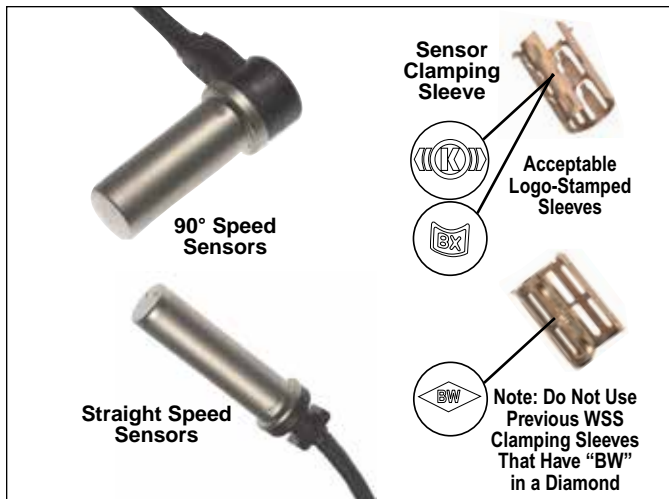

FIGURE 6 - BENDIX® WS-24™ WHEEL SPEED SENSORS
- **Wheel Speed Sensors (WSS):** Located at selected hubs, wheel speed sensors detect the rotation of individual wheels and send an electrical signal to the ECU proportional to the rotational velocity. See Figure 6.
See *Figure 4*. Wheel speed data is provided to the TABS-6 Advanced MC module by the Bendix® WS-24™ wheel speed sensors. Typically, the WS-24 wheel speed sensor is installed in a mounting block that is welded to the axle housing. The WS-24 wheel speed sensors are protected by a stainless steel sheath. They are designed to be used with beryllium copper clamping sleeves (sometimes referred to as a “retainer bushing”, “friction sleeve”, or “clip”) (See *Figure 6*). The clamping sleeve provides a friction fit between the mounting block bore and the WS-24 sensor.
2. Install the new clamping sleeve fully into the block, with the retaining tabs toward the inside of the vehicle. Please note that Bendix WS-24 wheel speed sensors must use the correct clamping sleeve to avoid problems associated with reduced retention force, such as sensor movement and resulting ABS trouble codes. See *Figure 6*.